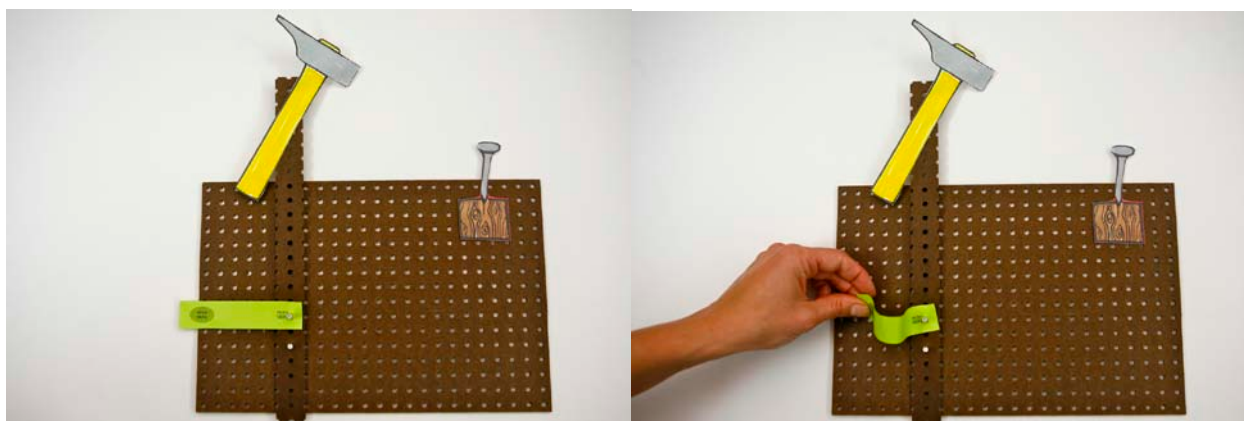

Figure 1: Hammer MechAnimation with thin cardstock section as input link
1. **Demonstration of MechAnimation and discussion of force requirements.** Conduct a whole-class meeting. Hold up the original Hammer MechAnimation. The original version has a heavy cardboard input link, which will not buckle when you operate it. Demonstrate how it works. Then replace the pegboard input link section by a piece of cardstock. See Figure 1, left.
Then demonstrate it, as in Figure 1, right, so everyone can see it buckle. Conduct a discussion about why the cardstock piece buckles, but the heavy cardboard doesn't, when used as part of the input link. To illustrate how buckling occurs when the force increases, have each student hold a piece of cardstock, and gradually push the two ends together until it buckles.